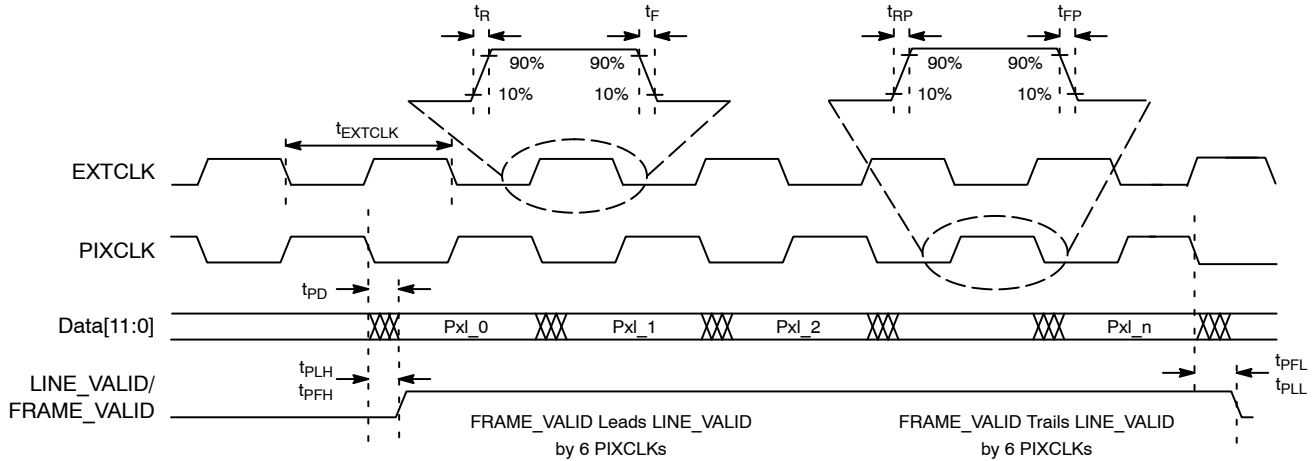

Figure 7. I/O Timing Diagram
using the rising edge of PIXCLK. The launch edge of PIXCLK can be configured in register R0x3028. See Figure 7 and Table 6 for I/O timing (AC) characteristics.